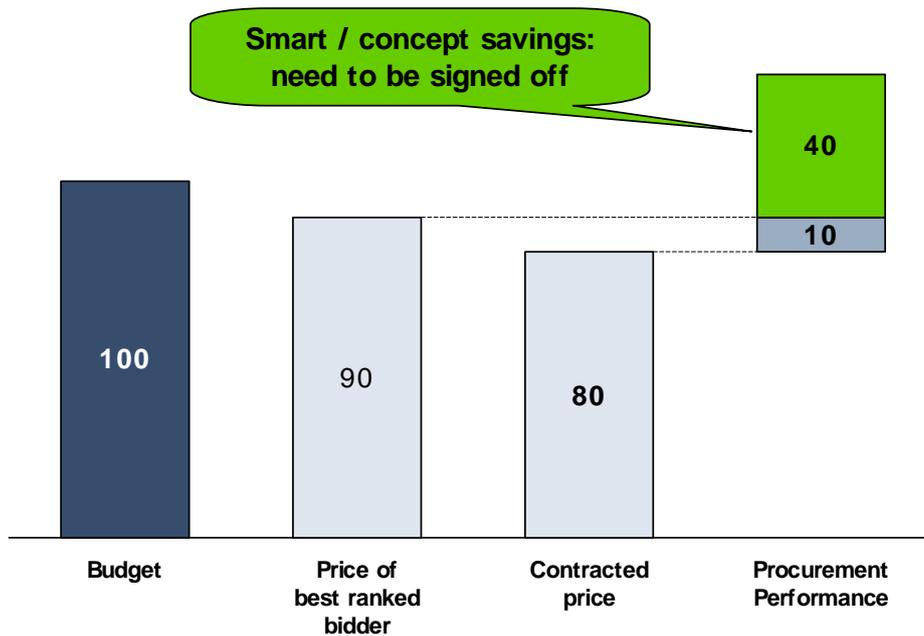

Figure 7: Example smart / concept savings
- Figure 7: Example smart / concept savings 16